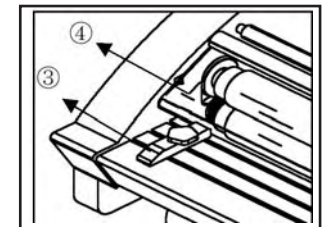

Figure 2
Feed Guide (3) - The feed guide permits alignment of the item(s) to be laminated. To position the adjustable guide, loosen the knob, slide it to the desired position and tighten the knob to secure the feed guide in place. (Fig.2)